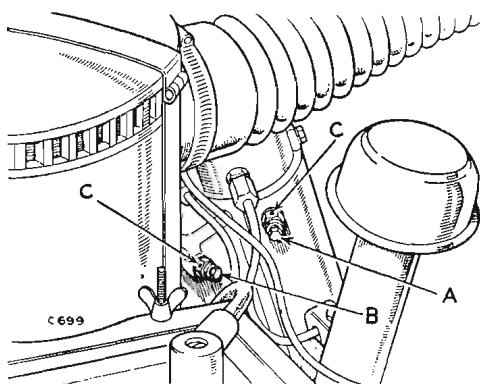

Fig. 33. Priming the distributor pump.
8. Release air vent screw 'A' on distributor body. See Fig. 33.